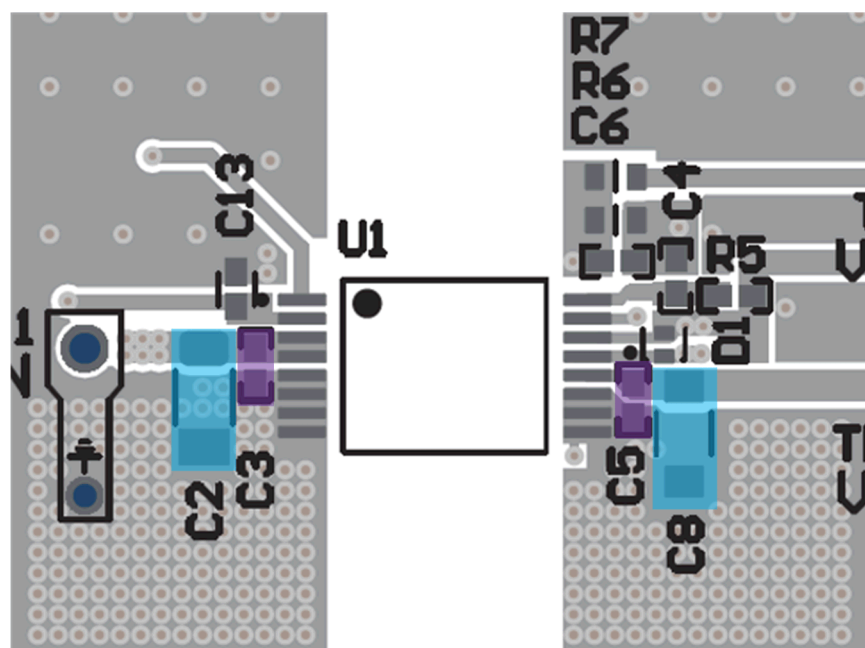

Figure 3-8. VIN (C2, C3) and VDD (C5, C8) Capacitors
- b. Place the bulk VIN capacitor(s) (C2) as close as possible and parallel to the 0.1 μ F high frequency bypass capacitor (C3) and on the same side of the PCB as the IC as shown in Figure 3-8.
2. /PG decoupling capacitor: The /PG decoupling capacitor should be placed close to pin 2 (/PG) and on the same side of the PCB as the UCC35131-Q1. Refer to C13 placement shown in Figure 3-8.
- b. Place the bulk VDD-COM capacitor (C8) as close as possible and parallel to the 0.1 μ F high frequency bypass capacitor (C5) and on the same side of the PCB as the IC as shown in Figure 3-8.